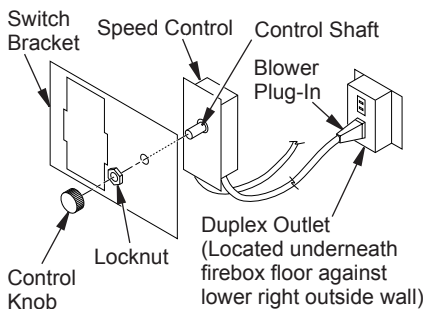

Figure 28 - Attaching Speed Control to Firebox (Millivolt Models)
5. Mount speed control box by placing plastic control shaft through opening in switch bracket (see Figure 28).
5. Mount speed control box by placing plastic control shaft through opening in switch bracket (see Figure 28, page 19).
6. While supporting speed control, secure control shaft with lock nut by pushing and turning lock nut with pliers clockwise until it is tight against mounting plate. Place control knob provided on shaft (see Figure 28, page 19).